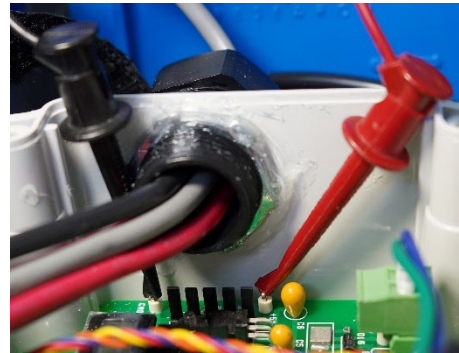

Figure 3-7. Checking Voltage at 5V Test Point
- Confirm that voltage from GND to 5V test point (see Figure 3-7) is 4.8 VDC - 5.2 VDC